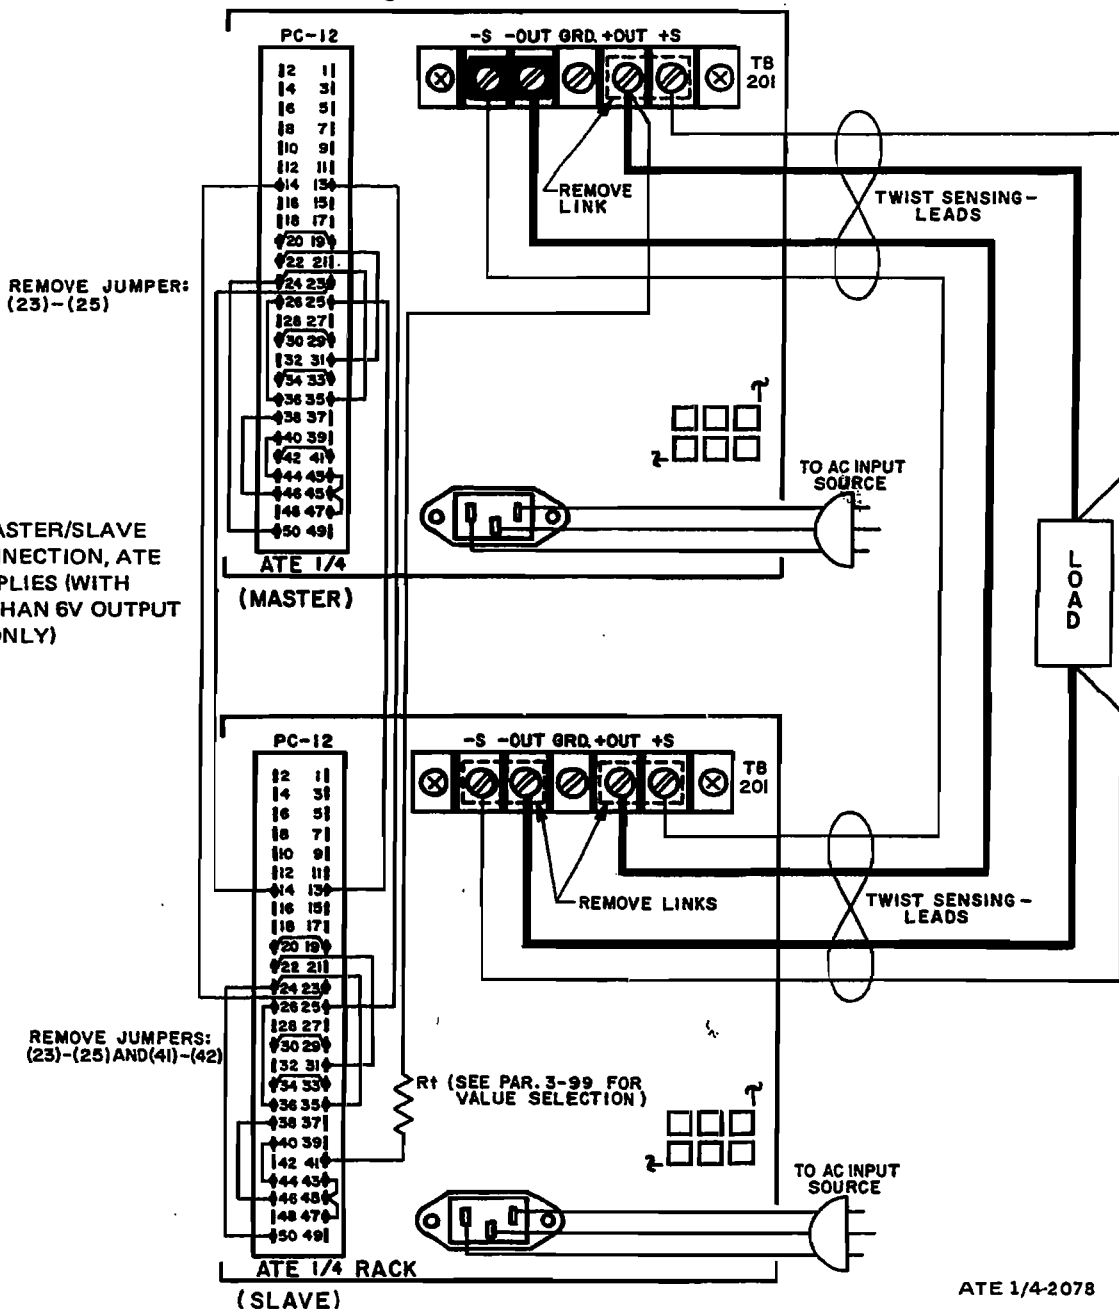

FIG. 3-22 MASTER/SLAVE SERIES CONNECTION, ATE POWER SUPPLIES (WITH GREATER THAN 6V OUTPUT VOLTAGE ONLY)
$R_t = \frac{55\text{V}}{1\text{mA}} - 10\text{K} = 45\text{K ohms}$, and connecting the system as shown in FIG. 3-22 will produce the desired result.
- 3) Interconnect power supplies as shown in FIG. 3-22. Note: Only one SLAVE unit is shown, but more can be added. Turn MASTER supply VOLTAGE CONTROL to its maximum counterclockwise position.